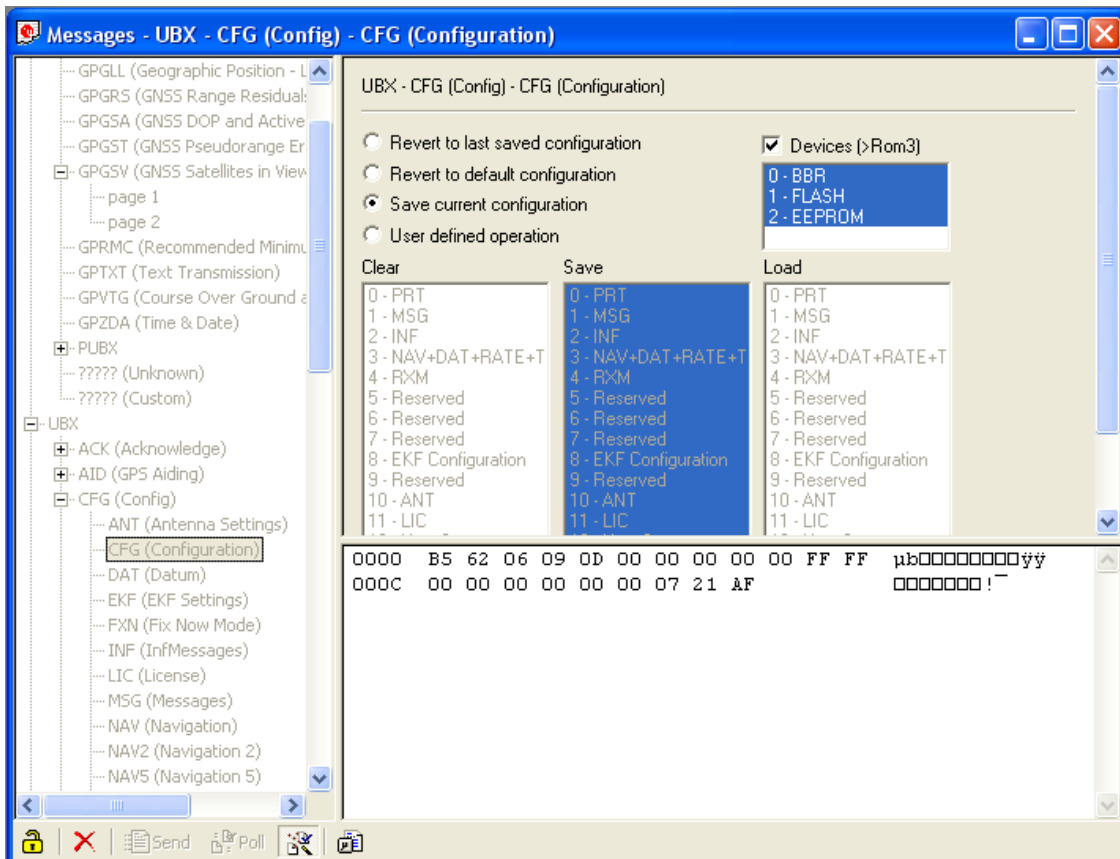

Figure 50: Saving Parameters (UBX-CFG-CFG)
- 4) Select "save current configuration" (see Figure 50).